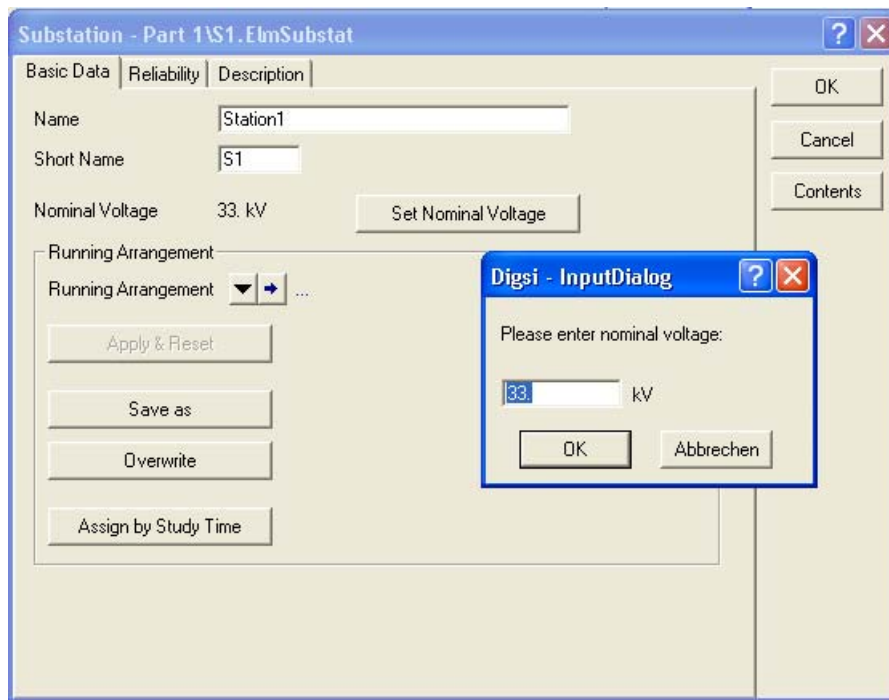

Fig. D.10: Setting the nominal voltage of a substation
- ▶ Enter 33 kV as shown in figure D.10.